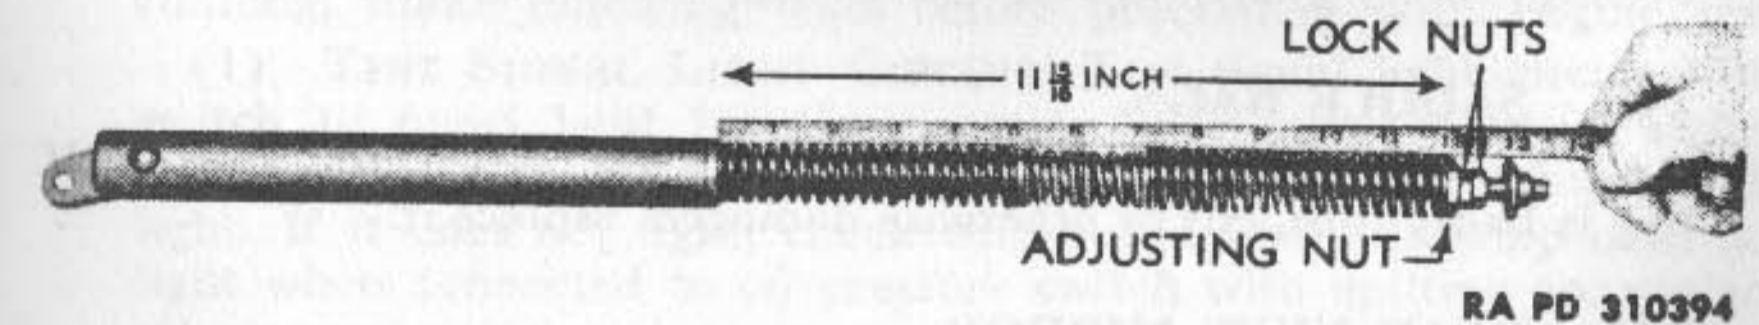

Figure 136—Saddle Spring Post Adjustment
b. **Saddle Post Adjustment.** The spring saddle spring post is correctly adjusted for the average weight rider when the distance from end of plunger to adjusting nut is $11\frac{15}{16}$ inches (fig. 136). To increase spring compression, turn adjusting nut to the right. To reduce spring compression, turn adjusting nut to the left.